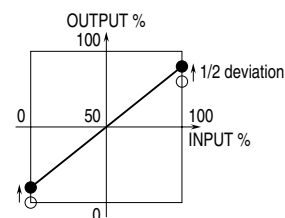

Fig. 9
5) Set the input to 100%. If there is a deviation in output signal, compensate half of the deviation via the Zero adjustment. See Figure 9.